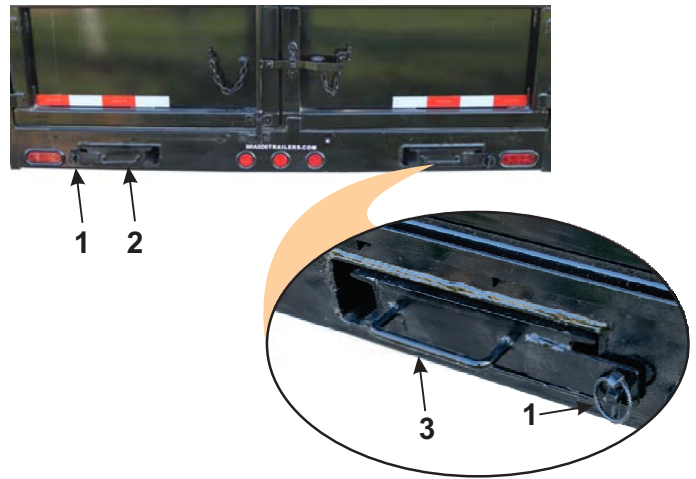

Figure 3-26 – Trailer Ramp Storage and Quick Clips
3. Remove the ramp quick clips (1, Figure 3-26) from each ramp (2, 3, Figure 3-26) and slide each ramp out from under the trailer.